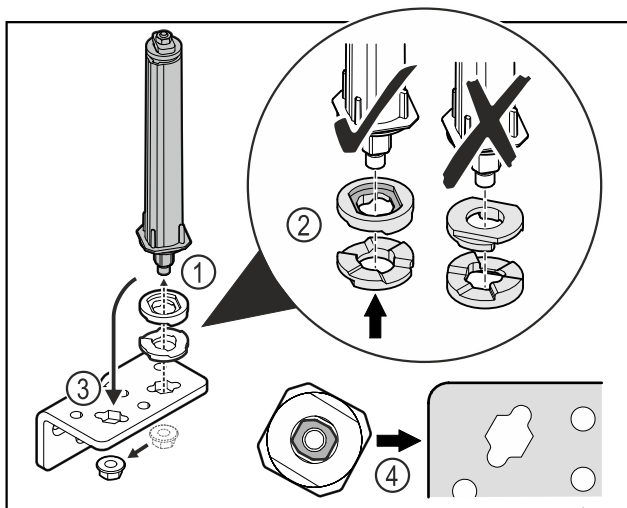

Fig. 30
- Loosen the nut and remove the door closing system Fig. 30 (1).
- Observe the correct alignment of the height adjustment washers Fig. 30 (2).
- Put the door closing system in the hinge and fix in place with the nut Fig. 30 (3).
- Observe the correct alignment of the door closing system when doing so Fig. 30 (4).